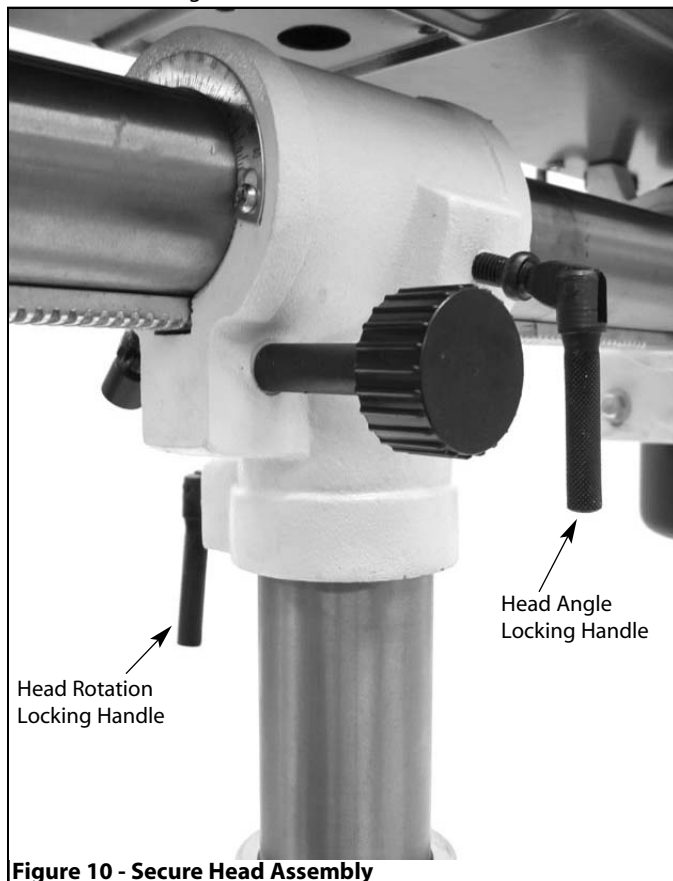

Figure 10 - Secure Head Assembly
- Secure head assembly into position by tightening the locking handles (see Figure 10).